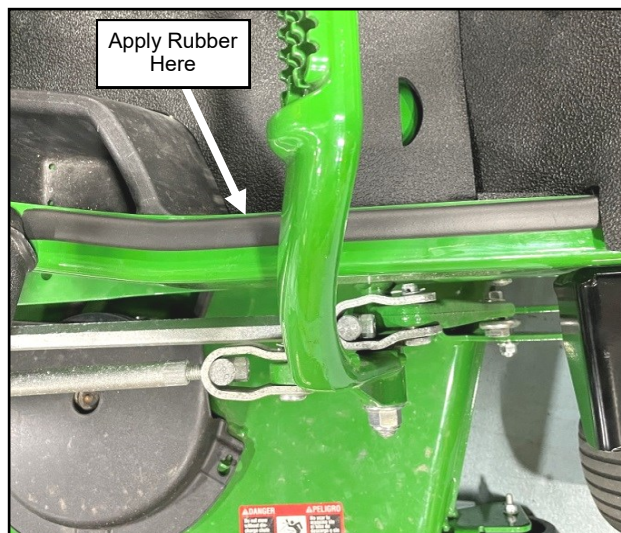

Fig. 1.33 (Install Rubber to Vehicle's Frame, Right)
- 1.33** Clean the vehicle frame rails on either side of the floorboard. Apply P.S.A. D-Rubber (9PR09) to the top surface of the frame rails. Apply along the inner edge of the surface as shown in Figure 1.33.. Repeat for left side.